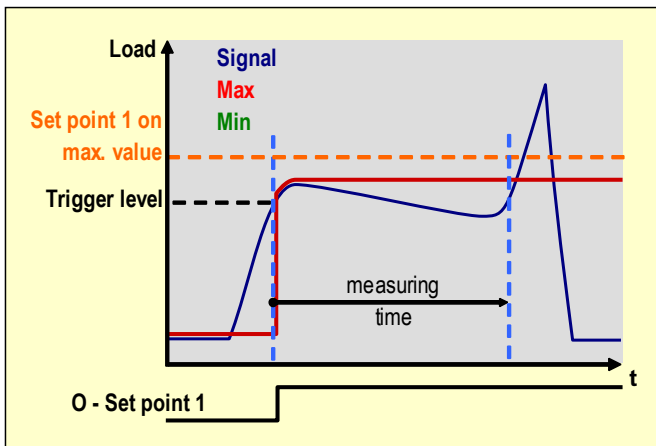

Fig. 12
- through a trigger level (Fig. 12)
Outputs can be assigned to the set-point function (Fig. 12). Set-points can be assigned with either Max or Min or Peak-to-peak values or to the gross or net measurement.